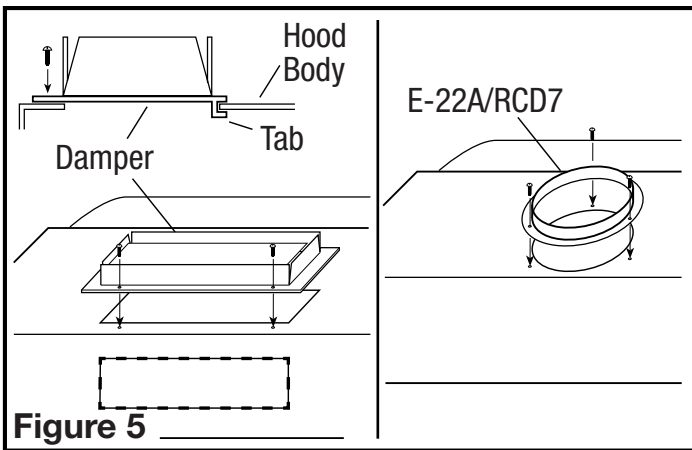

Figure 5
3. For 3-1/4" x 10" vertical or horizontal ducting, install the damper assembly to the hood by sliding the tabbed section of the damper under the hood body and securing with the two provided screws. For 7" round ducting, secure either a model E-22A or RDC7 Duct Collar (not included) to the hood with the three provided screws (**Figure 5**).